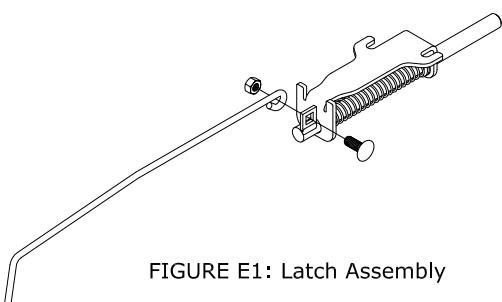
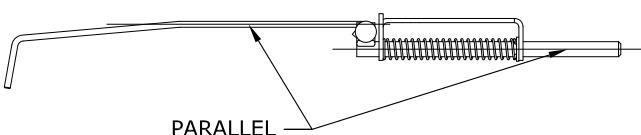

FIGURE E1: Latch Assembly
FIGURE E2: Latch Assembly
- Create latch assembly.** Attach the handle to the latch with a  $\frac{3}{8}$  carriage bolt and lock nut as shown in figure E1. With the handle parallel to the latch pin as shown in figure E2, tighten the hardware securing the handle to the latch.